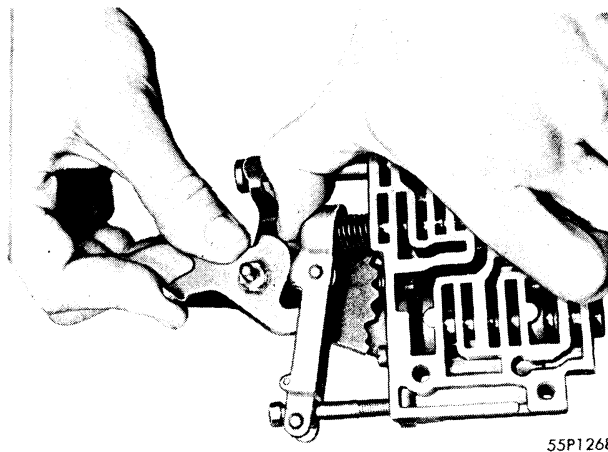
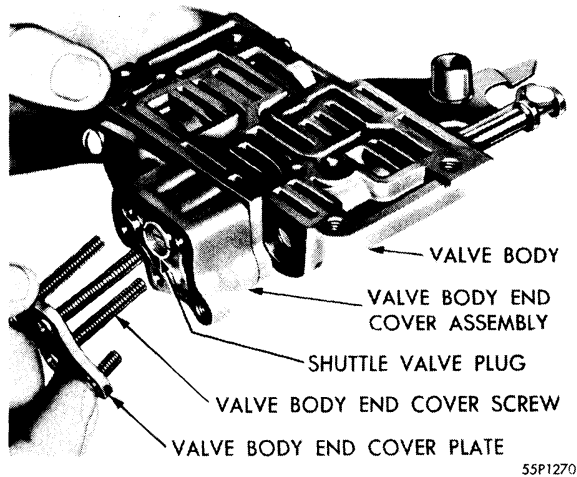

Fig. 120—Removal or Installation of Throttle Valve Cam Assembly
Fig. 122—Removal or Installation of Valve Body End Cover Plate
- (6) Compressing the throttle valve operating lever assembly against throttle valve spring, slide the throttle valve cam assembly from the manual valve lever assembly. (Fig. 120.)
- (10) Remove the four (three long and one short) valve body and cover plate screws and lockwashers and remove valve body and cover plate. (Fig. 122.)
- (11) Remove valve body and cover screw and lockwasher.
- (14) Install the valve body end cover screw and lockwasher, but do not tighten.
- (15) Install the three (long) valve body end cover plate screws and lockwashers. (Fig. 122.) Draw down evenly and tighten to 30 inch-pounds torque. Tighten the valve body end cover bolt and the remaining end cover plate bolt to 30 inch-pounds torque.
- (16) Using Tool C-3279, install throttle valve adjusting screw, and throttle valve operating lever assembly. Adjust to where there is approximately $1\frac{1}{16}$ inches distance between the valve body and end of throttle valve operating adjusting screw.
- (17) Install throttle valve (point outward) in valve body.
- (18) Place throttle valve spring and retainer over throttle valve. Swing throttle valve operating lever over spring and retainer.
- (19) Compressing the throttle valve operating lever assembly against the throttle valve spring, slide the throttle valve cam assembly into manual valve lever assembly indexing cam portion in slot of operating lever. (Fig. 120.)